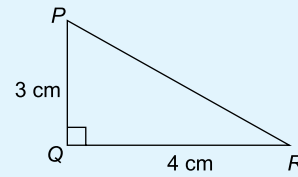

Figure 1.9
- In the right-angled triangle PQR shown in Figure 1.9, $\angle R$ is equal to: